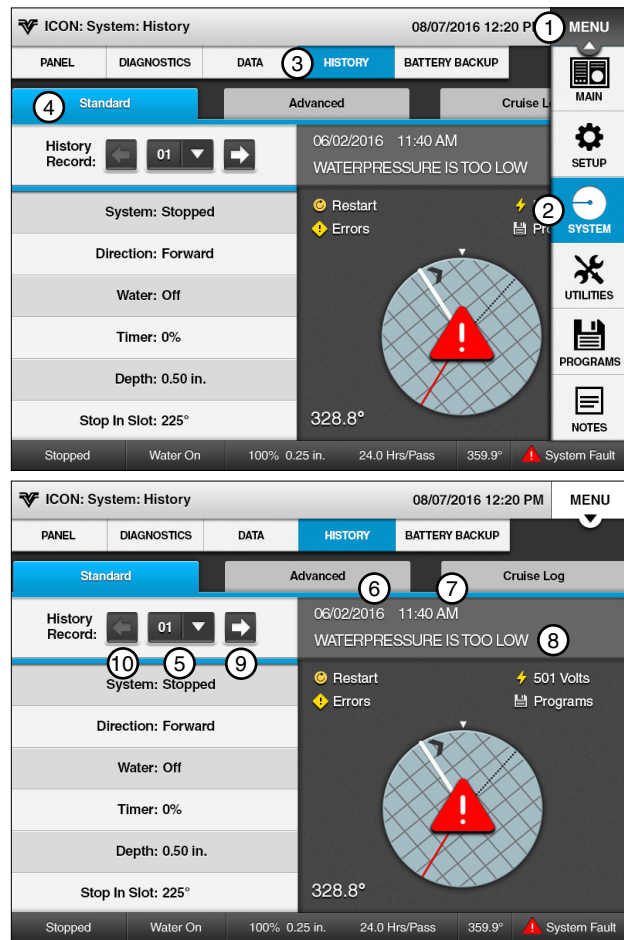

Figure 66-1
History provides a record of the 50 most recent machine operation status changes via the Standard and Advanced Screens. Refer to Figure 66-1.
1. To view Standard History, push **Menu**, **System**, **History**, and **Standard**. See Figure 66-1.